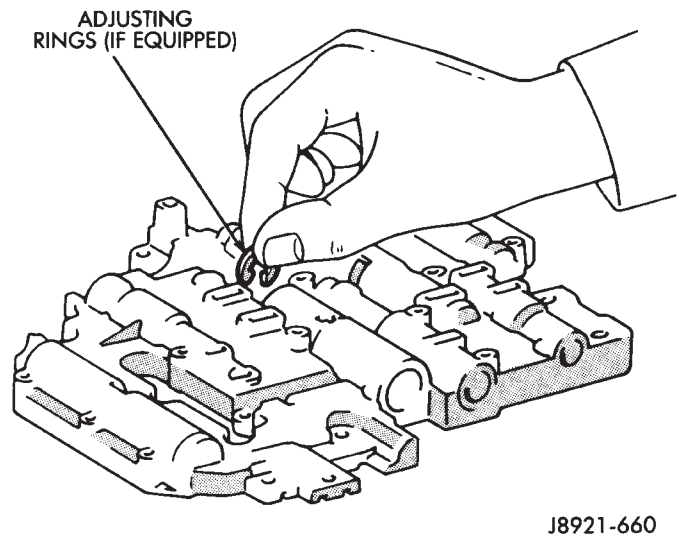

Fig. 17 Install Throttle Valve Adjusting Rings (If Equipped)
- (12) On models with adjusting rings, turn upper body over and install adjusting rings (Fig. 17). Be sure to install same number of rings as were removed.